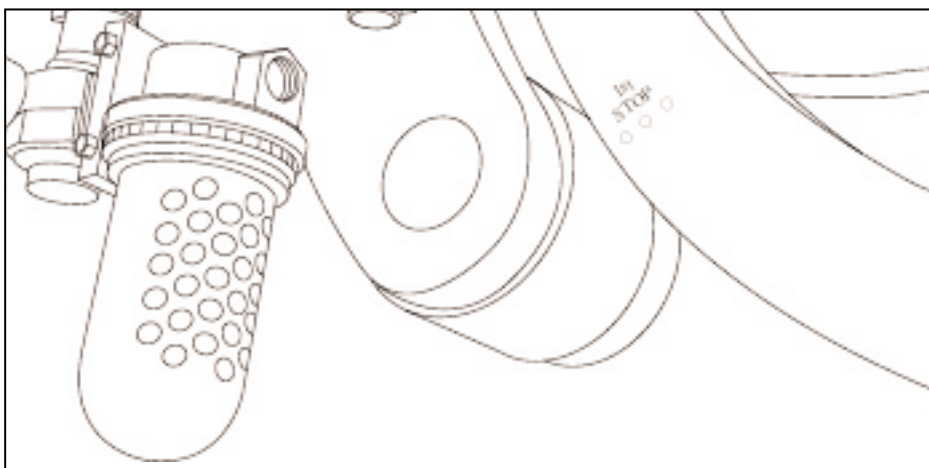
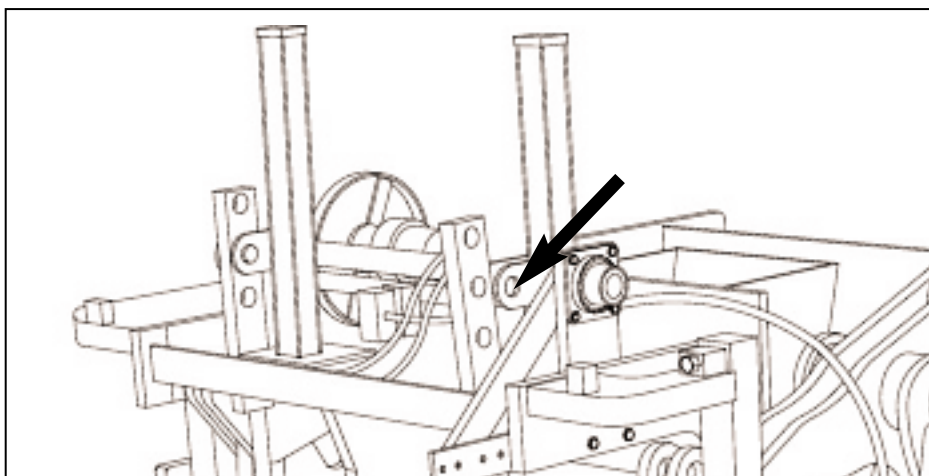

Figure 4.50 "FIRST STOP" (R.H. side of machine).
Figure 4.51 DISCONNECTING THE AUTOFEED LINKAGES.
4.4.1 Run machine to "first stop" (see figure 4.50). Turn off clutch and drive motor and manually lower the autofeed to its lowest position. Disconnect the autofeed linkage at the top (see figure 4.51).